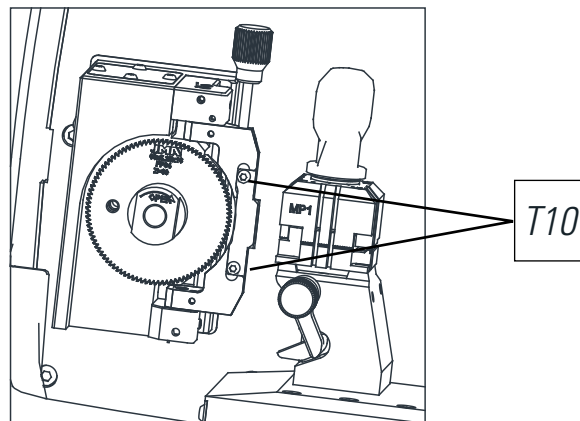

FIG. 25
- 3) Unscrew the two screws (T10).(Fig.25)